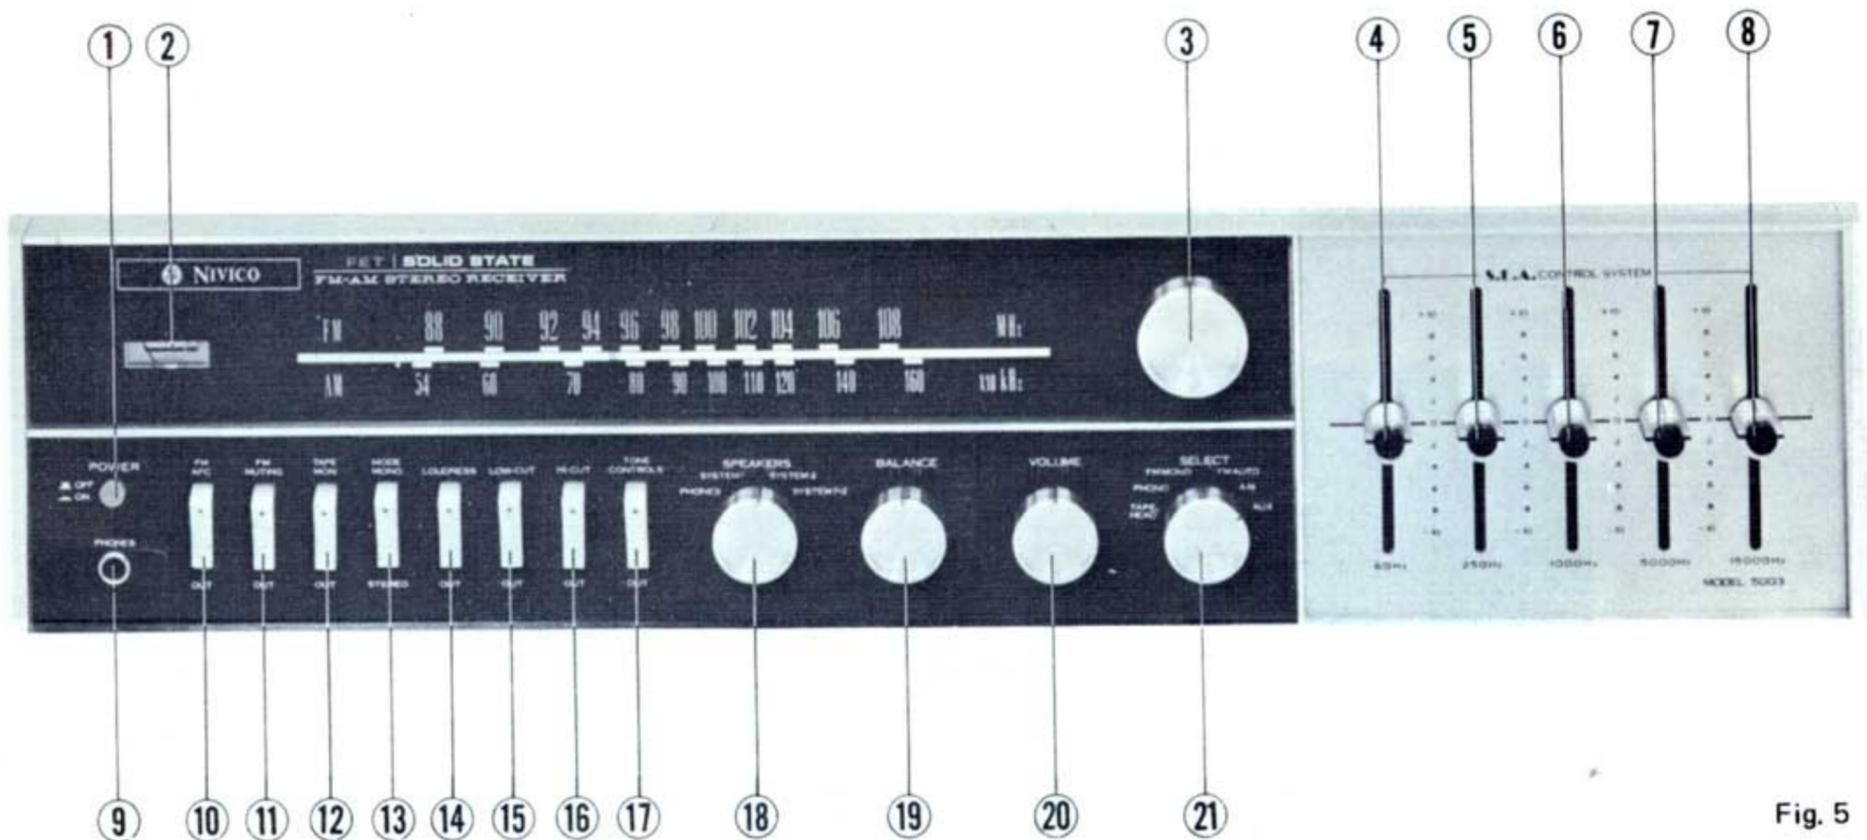

Fig. 5
**MUTING ADJUSTMENT:** Limited inter-station noise may sometimes be heard during FM reception. To correct this, use the FM muting adjustor-(26) in Fig.6—located on the back of the set. Connect either the feeder antenna (supplied), or an outdoor antenna to the FM ANTENNA terminal-(27) in Fig. 6. Tune to a position where the maximum amount of noise can be heard. Then set the muting switch-(11) in Fig. 5—to MUTING. Use a screwdriver to turn the FM muting adjustor, Fig. 3, until the inter-station noise is reduced.
**(7) 5KHz Knob.** If you hear a metallic reverberation, set this knob at "0" or move it toward "minus" (-).
**(8) 15KHz Knob.** With this knob at "0", the high frequency characteristics are flat. Sharp sounds are emphasized when this knob is moved toward "plus" (+), and deemphasized when it is moved toward "minus" (-).
**(9) Head Phone Terminal.** To avoid disturbing others and to get maximum enjoyment yourself, plug the JVC NIVICO stereo head phone STH-2E | 5950 into this terminal.
**(10) FM AFC (Automatic Frequency Control).** This provides stable FM reception. The FM AFC automatically adjusts frequency variation for stable tuning during FM broadcasts. With very weak stations, however, the FM AFC will emphasize the tuning of a stronger station. In such cases, do not use the FM AFC.
**(11) FM Muting Switch.** This switch eliminates interference between FM stations. For very weak stations, the switch should be set at the "out" position.
**(12) Tape Monitor.** Set this switch at "out" usually. At the "monitor" position, speakers do not produce sound. The "monitor" position is used only when reproducing recorded sounds with a tape recorder.
**(13) Mode.** Set this switch at "mono" for monaural reproduction, or at "Stereo" for stereo reproduction.
**(14) Loudness.** This switch controls sound tone at lower levels. Set it at "LOUDNESS" when listening to soft music.
**(15) Low Cut Filter.** Eliminates low frequency noises, such as record rumble, motor noise, humming, etc.
**(16) High Cut Filter.** Eliminates high frequency noise, such as record scratch, hiss static, etc.
**(17) Tone Controls.** By pushing this switch, the SEA controller, (4), (5), (6), (7), (8) of Fig. 5, is put into operation.
**(18) Speaker Selection.** Turn this knob to "phone" to use the head phones. Turn it to "System 1" when using the right speaker terminals and to "System 2" when using the left speaker terminals. When using "System 1" and "System 2" together, turn the knob to the "System 1+2" position.
**(19) Balance Control.** This knob balances the sound volume between left and right channels. The sound is increased toward the left channel when the knob is turned left, and vice versa.
**(20) Volume Control.** A counter-clockwise turn will lower the volume. A clockwise turn will raise it.
**(21) Selector: TAPE HEAD.** This position is used when using a tape player with a tape head without an equalizer. FM AUTO. At this position, FM Stereo is automatically reproduced whenever the stereo signal is broadcast. If a station switches from mono to stereo broadcasts, the 5003 will also switch when the selector is in this position.